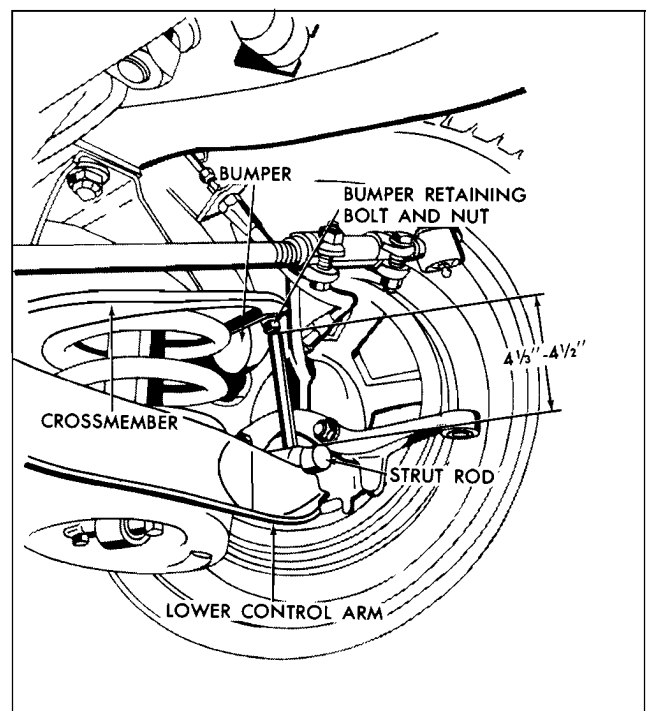

Fig. 3-10 Measuring Front Suspension Curb Height
1. In front, measure height at a point directly in front of spring (Fig. 3-10).